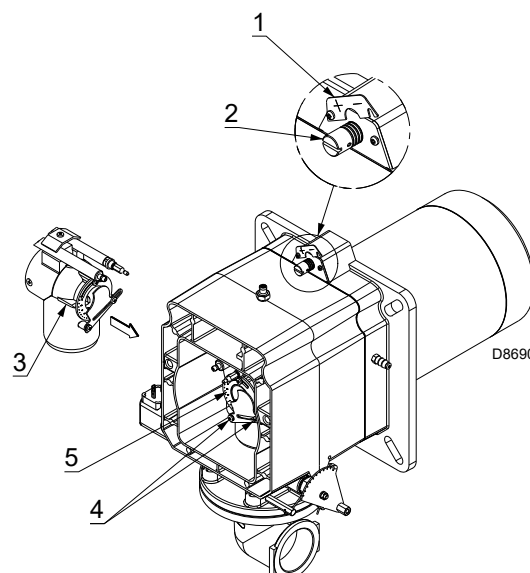

Fig. 16
- rotate the screw 2 (Fig. 16) until the notch you have found corresponds with the front surface 1) of the flange.
To facilitate the adjustment, loosen the screw 3 (Fig. 16); adjust, then lock in place.
- loosen the screws 4) and rotate the ring nut 5) (Fig. 16) until the notch you have found corresponds with the indicator 3);